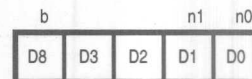

Figure 35. DSP Register Indirect Fields
1. Register Indirect (Figures 35 and 38) Pn:b n = 0-2, b = 0-1: The most commonly used method is a register indirect addressing method, where the RAM address is specified by one of the three RAM address pointers (n) for each bank (b). Each source/destination field in Figures 35 and 39 may be used by an indirect instruction to specify a register pointer and its modification after execution of the instruction (Figures 35 and 39).